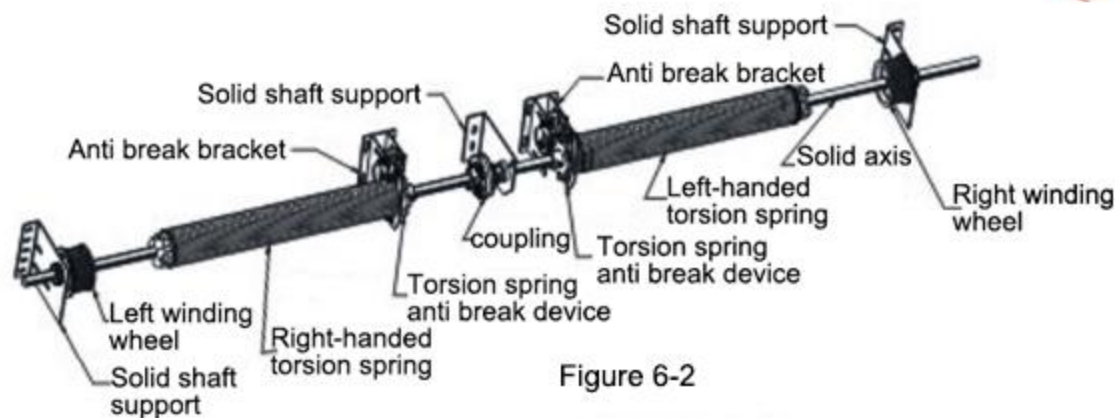

Figure 6-2
6.1.2 Assembly of the balance system in conventional installation and low headroom installation (Figure 6-2)